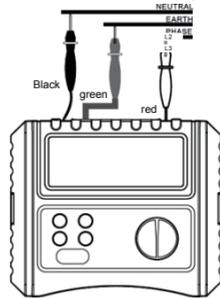

Figure 6
XI. Detecting Phase Sequence(See Figure 6)
- 3) Then connect three test leads into three-phase AC system (black to L1, green to L2, red to L3, refer to Figure 6 for details), after that, the Tester will indicate the phase sequence and open phase result on LCD.
- 2) Insert three connectors of one-plug test leads or three separate test leads into three input terminals of the Tester (red to red, green to green, black to black). (Refer to Figure 6, 7, 8)